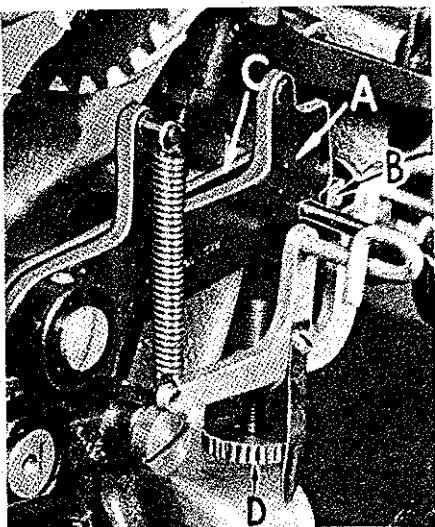
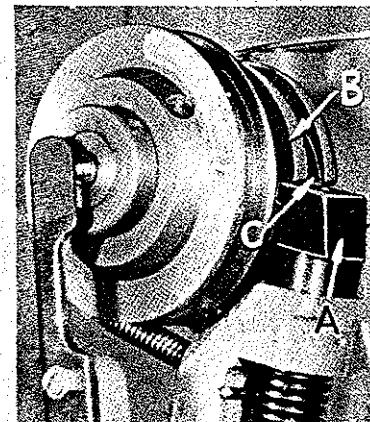

Fig. 15
Fig. 16
The pull-off lever (A, Fig. 15) is set correctly when it snaps off the plunger (B) as the stop motion plunger (A, Fig. 16) comes to an abrupt stop against the stop motion disc (B) when operating machine by hand.
Check the pull-off lever plunger (B, Fig. 15) to be sure it operates freely. Looking down into the head of the machine under the front main shaft bearing, loosen the clamp screw in driving crank (A, Fig. 17), and manually raise the pull-off lever
(A, Fig. 15) and plunger operating lever (C). Then, carefully lower the pull-off lever (A) until it just drops off the point of the plunger (B). Then, carefully tighten clamp screw in driving crank (A, Fig. 17).
If too much thread tail shows on completed tack, turn pull-off lever control screw (D, Fig. 15) clockwise to reduce length of tail. If starting thread is too short, causing loss of stitches, turn the control screw counterclockwise until slight amount of tail shows.